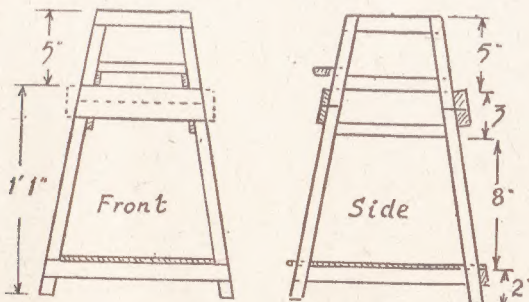

Fig. 1—Front and side view
round, and hold the rear middle bars together with a hook fastener, going under a screw head, as in detail sketch (B). A footboard of $\frac{1}{2}$ in. by 2 in. wood can be nailed across the legs at the front, at any convenient distance down from the top, somewhere about where shown in Fig. 1. A good glasspapering all over will be necessary now to remove roughness.